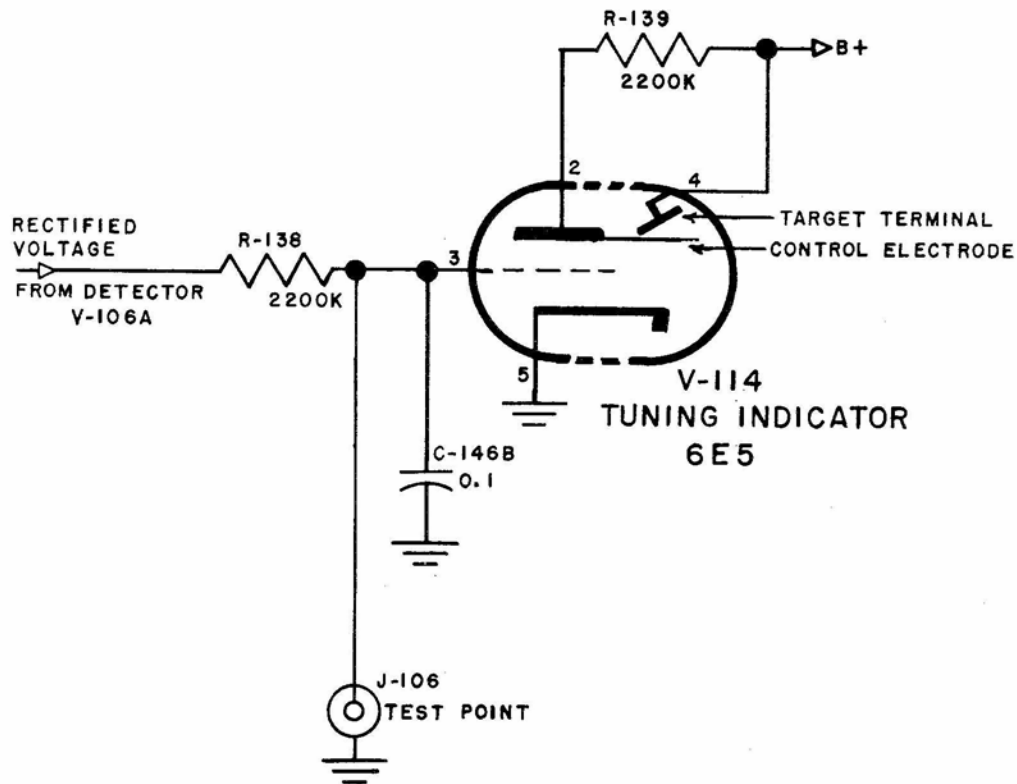

Figure 2-11. Tuning Indicator V-114, Simplified Schematic Diagram
m. TUNING INDICATOR V-114 CIRCUIT DETAILS. (See Figure 2-11.)—A type 6E5 electron-ray tube is used as the tuning indicator to enable the operator to determine visually exactly when a station has been properly tuned on the receiver. Signals passing through the R.F. and I.F. circuits of the receiver are detected by second detector V-106A producing a negative voltage at the junction of resistors R-126 and R-125. (See sub-paragraph 3 f, Section 2, for a detailed explanation of the action of the second detector circuit.) This negative voltage is applied to the grid of V-114 through resistor R-138.